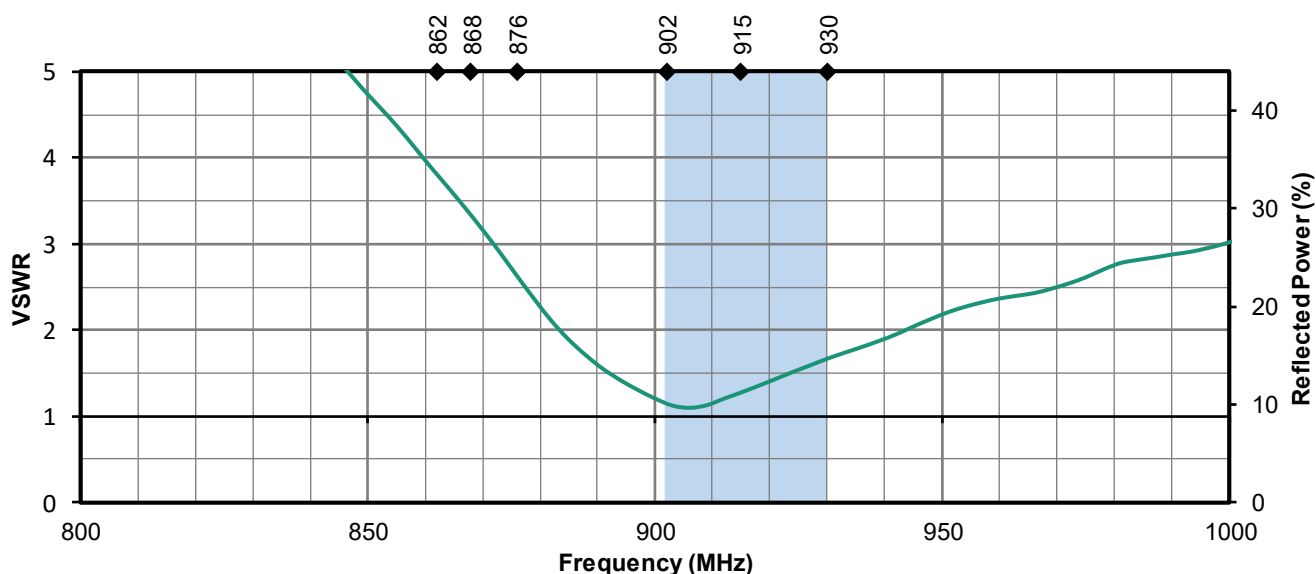

Figure 4. Antenna VSWR, Straight without ground plane
**Figure 4** provides the voltage standing wave ratio (VSWR) across the antenna bandwidth. VSWR is a function of the reflection coefficient, which describes the power reflected from the antenna back to the radio. A lower VSWR value indicates better antenna performance at a given frequency. Reflected power is also shown on the right-side vertical axis as a gauge of the percentage of transmitter power reflected back from the antenna.